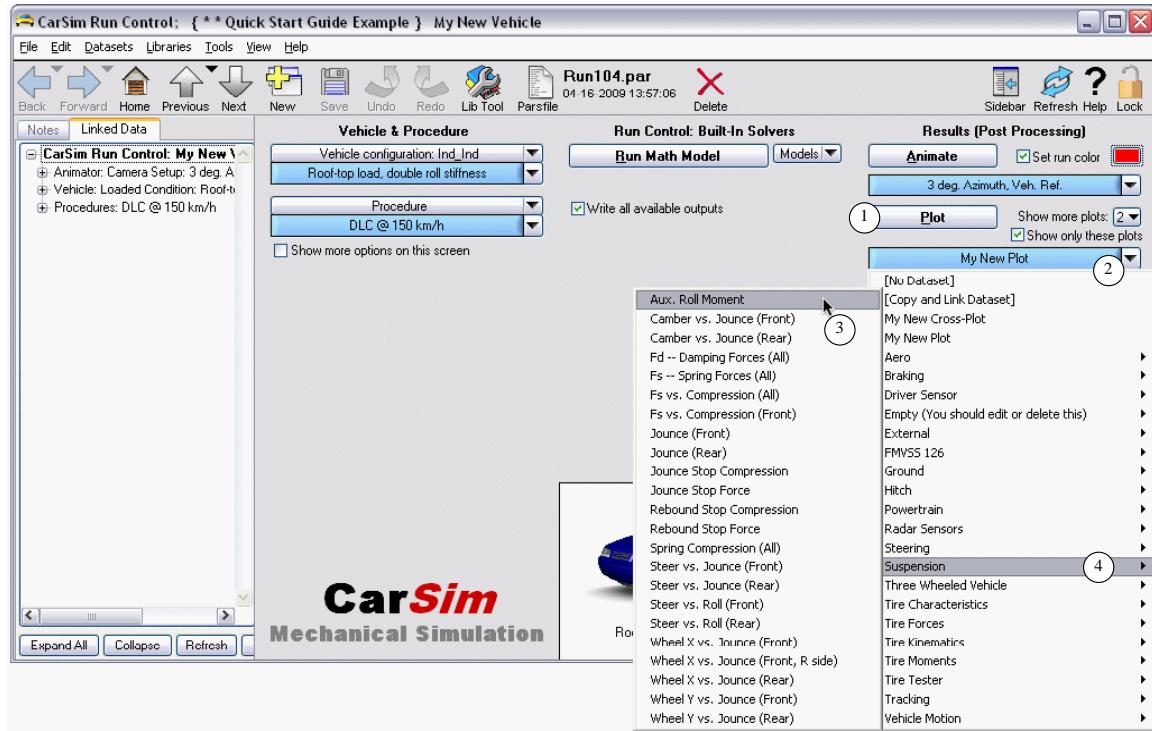

Figure 76. There are now many plots available in the quick-start database.
11. Go to the dataset that has your new plots from the previous section (**My New Vehicle**, Figure 76). Use the drop-down control next to one of the plot link buttons ② to see the menu of available plots. Notice that one of the plots is **Aux. Roll Moment** ③ in the category **Suspension** ④. Select it and click the **Plot** button ①.